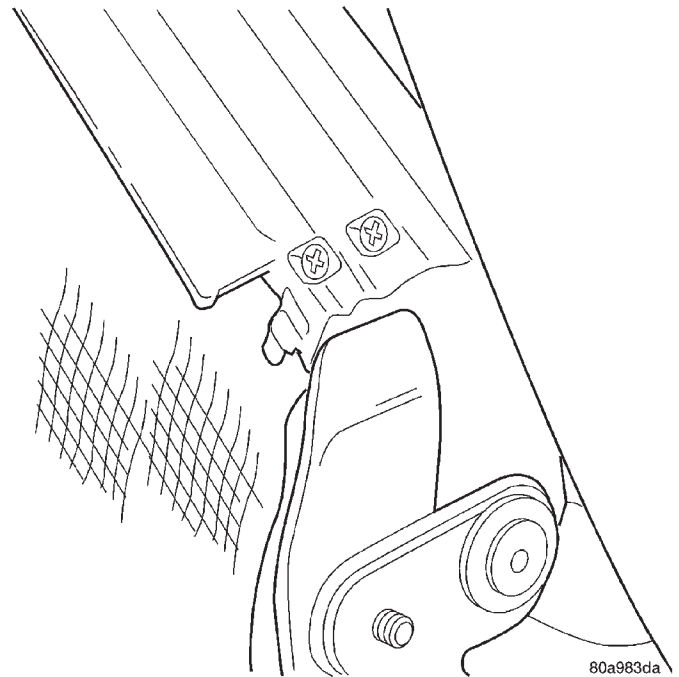

Fig. 3 Backlite Rear Stop Screw
- (14) Fold the cover assembly up over the top.
- (15) Remove tape and foam at the end of the third roof bow, save if reusable.
- (16) Remove the rearmost stop screw on the number three bow, either driver's or passenger's side (Fig. 3).
- (17) Slide the old backlite assembly off the number three bow .